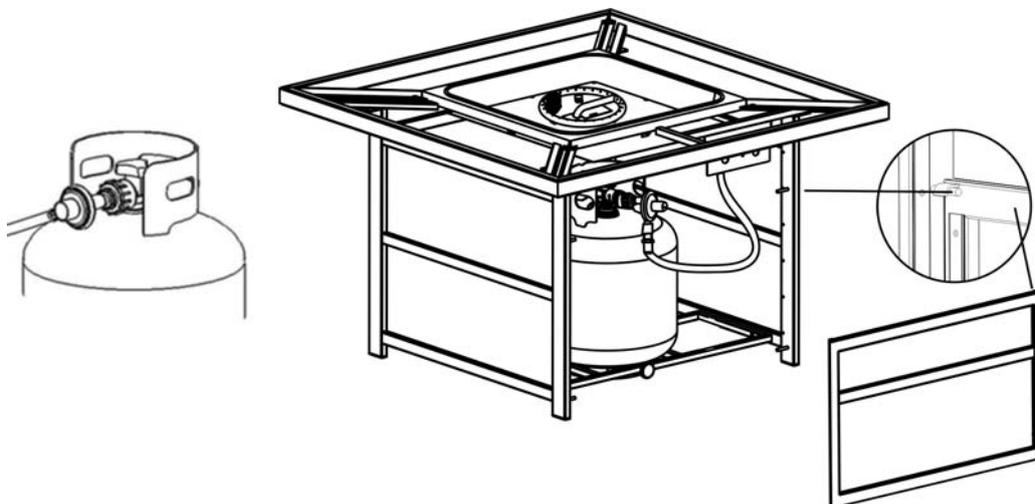

Figure 6
7. Slide the tank drawer out and place the LP tank in the drawer. Connect the regulator as shown in Figure 6. Turn the black handle clockwise to tighten. Turn the handle counterclockwise to remove. The hose must point down. Check that the valve is turned all the way clockwise to the "OFF" position. Open the tank valve. Apply a solution of soapy water to the tank-regulator connection and to the valve-hose connection to check for leaks. If soap bubbles continue to form, the connection has a leak. If a leak is found, close the tank valve and tighten all connections.